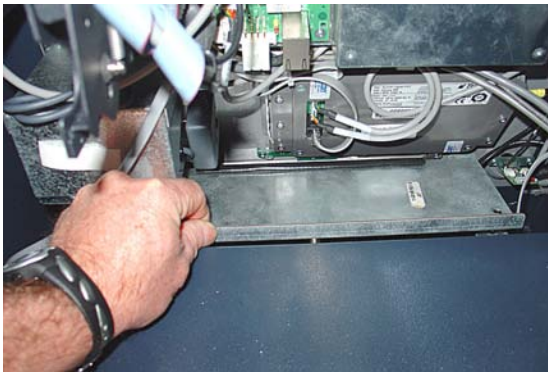

Figure 1. Remove shutter access plate.
1. Open sleeve cabinet door (where electronics are accessed). Remove the screw securing the shutter access plate (Figure 1) and temporarily remove the plate (**Note: This is NOT the security plate**).